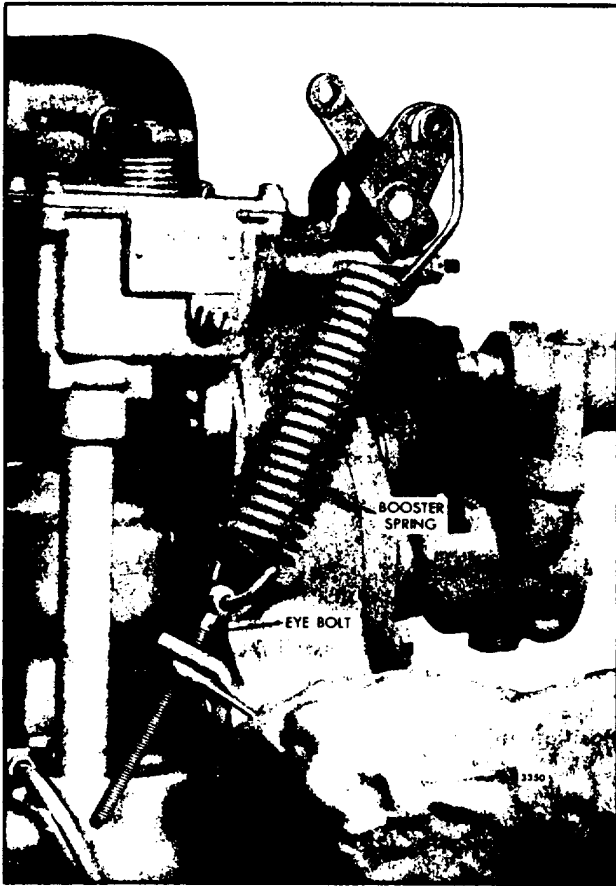

Fig. 8 · Adjusting Booster Spring
2. Refer to Fig. 8 and loosen the booster spring retaining nut on the speed control lever. Loosen the lock nuts on the eye bolt at the opposite end of the booster spring.